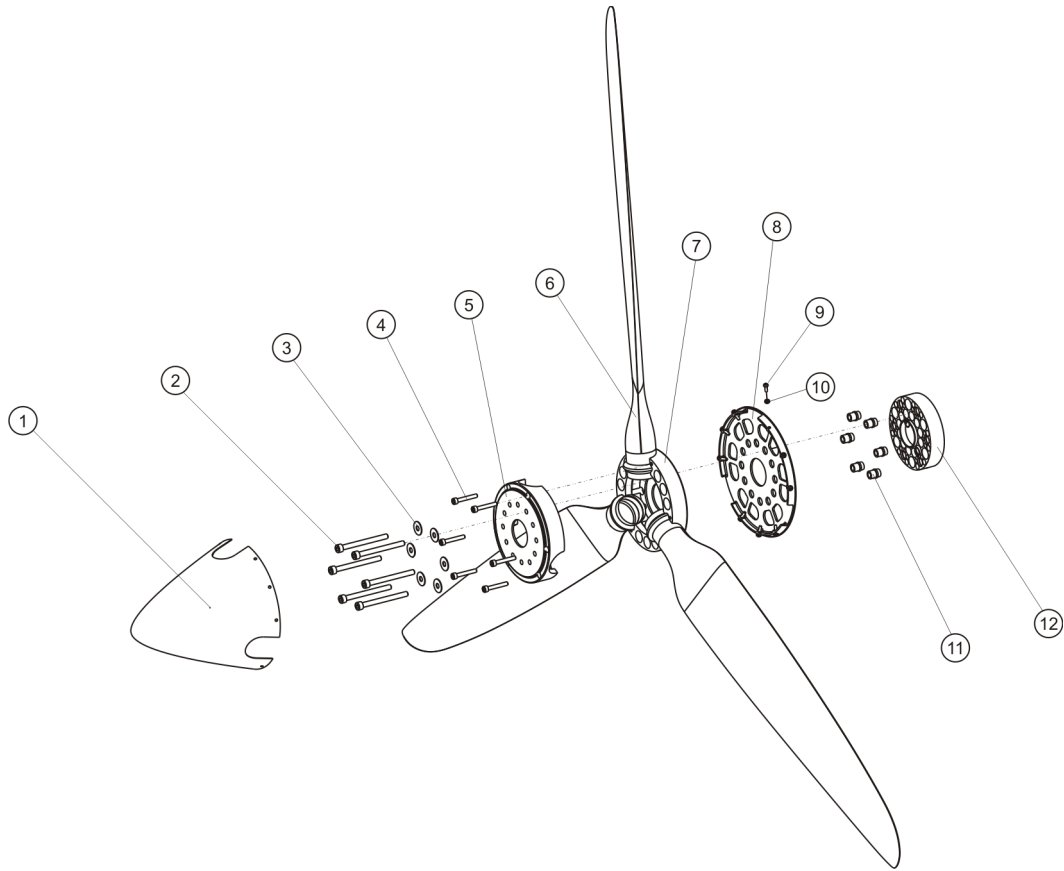

Fig. 1 - Propeller HTC
- 8 Torque-tighten bolts (Fig. 1, 2) with 15 Nm in crosswise sequence.
- 9 Torque-tighten bolts (Fig. 1, 4) with 10 Nm in crosswise sequence.